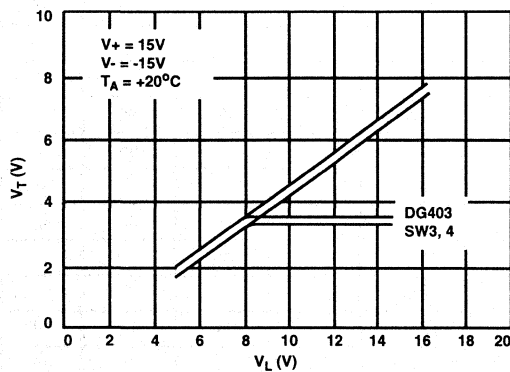

FIGURE 1. INPUT SWITCHING THRESHOLD vs LOGIC SUPPLY VOLTAGE
1. Refer to Figure 1 for test conditions.